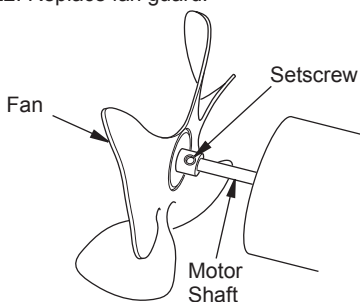

Figure 9 - Fan, Motor Shaft and Setscrew Identification
11. Use 1/8" hex wrench to loosen setscrew which holds fan to motor shaft (see Figure 9, page 9).